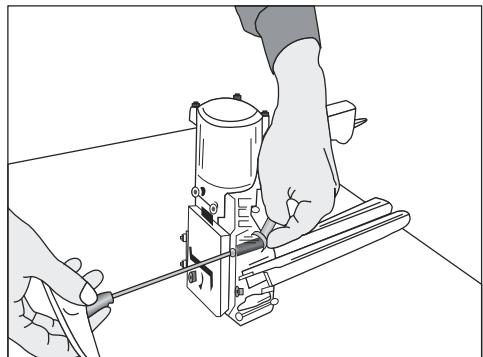

Figure 31
1. Remove screws and nut with 8 mm spanner wrench and 4mm Allen wrench. (See Figure 31)